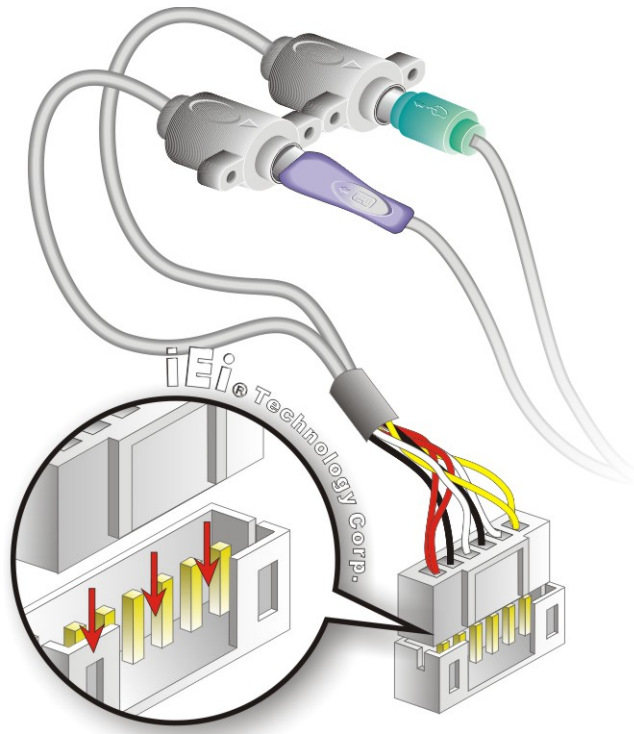

Figure 4-14: Keyboard/mouse Y-cable Connection
Step 2: Align the connectors. Correctly align pin 1 on the cable connector with pin 1 on the NOVA-HM551 keyboard/mouse connector. See Figure 4-14.
Step 3: Insert the cable connectors Once the cable connector is properly aligned with the keyboard/mouse connector on the NOVA-HM551, connect the cable connector to the on-board connectors. See Figure 4-14.